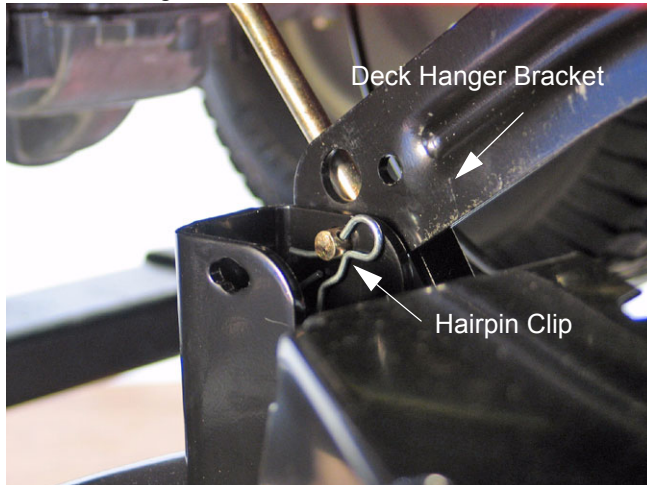

Figure 2
- 1.4. Using needle nose pliers, remove the hairpin clips securing the deck hanger brackets to the deck. Release the hanger links from the deck. See Figure 2.